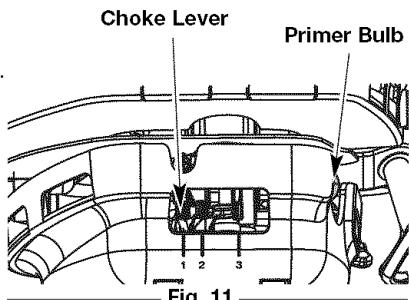

Fig. 11
- 3. Fully press and release the primer bulb 10 times, slowly. Some amount of fuel should be visible in the primer bulb and fuel lines (Fig. 11). If you can't see fuel in the bulb, press and release the bulb as many times as it takes before you can see fuel in it.
4. Place the choke lever in **Position 1** (Fig. 11).
6. Place the choke lever in **Position 2** (Fig. 11).
9. Place the choke lever in **Position 3** (Fig. 11). The unit is ready for use.